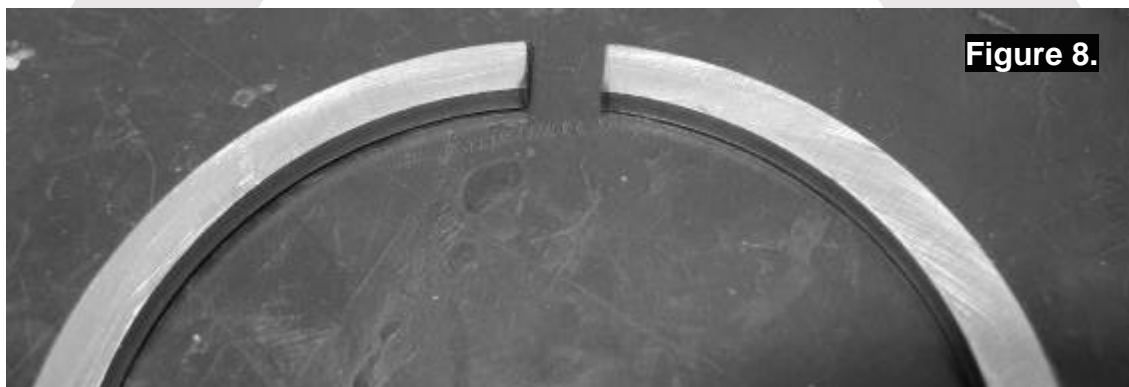

Figure 8.
- Cut a slot into shim pack 'E' as clearance for the seal housing tube at final assembly. Figure 8. shows the desired size of the slot.